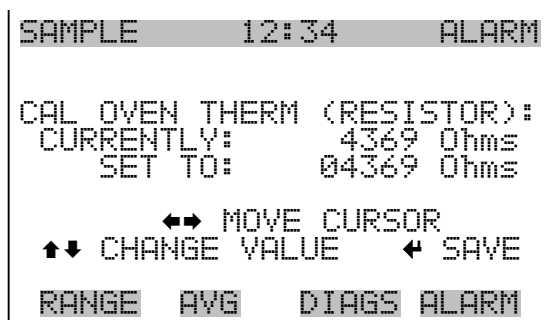

Figure 9-1. Cal Oven Therm Resistor Screen
2. From the Permeation Oven menu in the Service menu, select **Cal Oven Thermistor** (Figure 9-1).